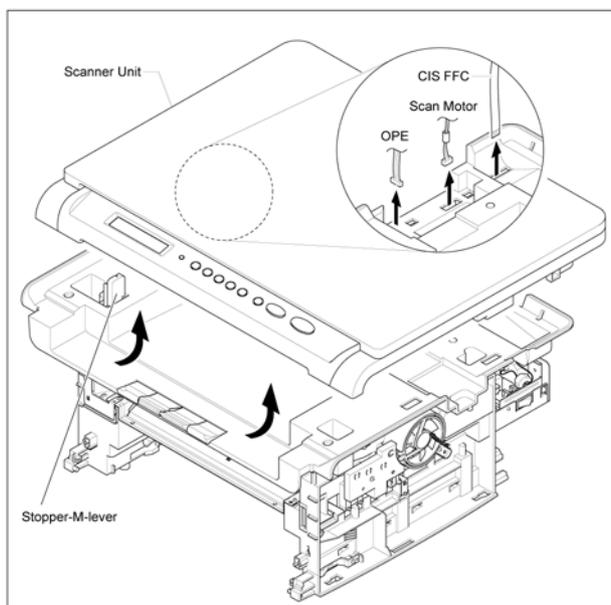

Figure 2
4. Carefully lift the Scan Assembly in the direction of the arrows while threading the cables through the frame, Figure 2.